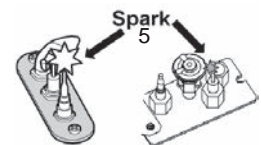

Fig 3
2. TO CLEAR ANY GAS, turn main valve off by pressing the button on remote handset (1). Wait five (5) minutes to clear out any gas, then smell for gas, including near the floor. If you smell gas, STOP! follow "B" in the safety information above on this label. If you don't smell gas, go to the next step.
3. AUTOMATIC IGNITION: MAN-knob (2) in ON position. Ensure Flame Adjustment knob (3) is set to lowest setting (Fig. 1). Locate the pilot (Fig. 3.) inside the firebox.
With the window off, locate the pilot (Fig. 3) inside the firebox. Set Flame Adjustment knob (3) to the lowest setting. Push down the metallic core (4) with a pen or similar instrument; this will establish the pilot gas flow. Light gas at the pilot (5) with a match. Continue holding down metal core (4) for about 10 seconds; after release, pilot should remain lit.